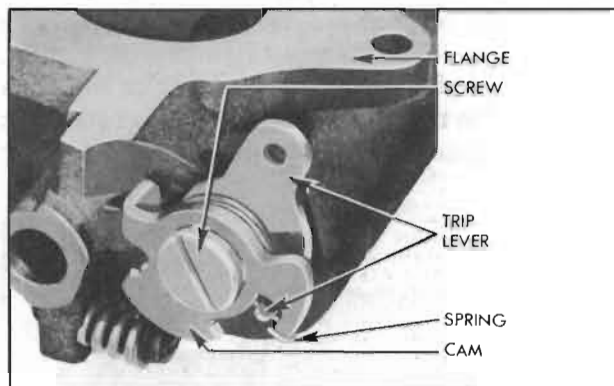

Figure 3-34—Fast Idle Cam, Spring, and Trip Lever
2. Place fast idle cam and cam trip lever over fast idle screw so that tongue on trip lever is held in the notch in cam by the hooked end of cam spring, then install parts on body flange. See figure 3-34.